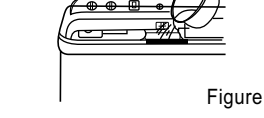

Figure 2
2. Fill water and add dissolved powder detergent until water reaches a suitable level. (Figure 2) Begin to wash to dispense detergent uniformly.